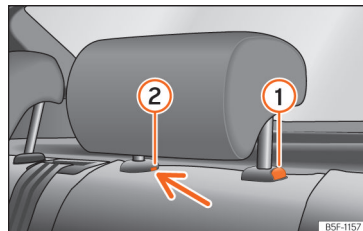

Fig. 121 Rear headrest: removal.
- Press button » Fig. 121 ①, while simultaneously pressing on the security hole ② with a »